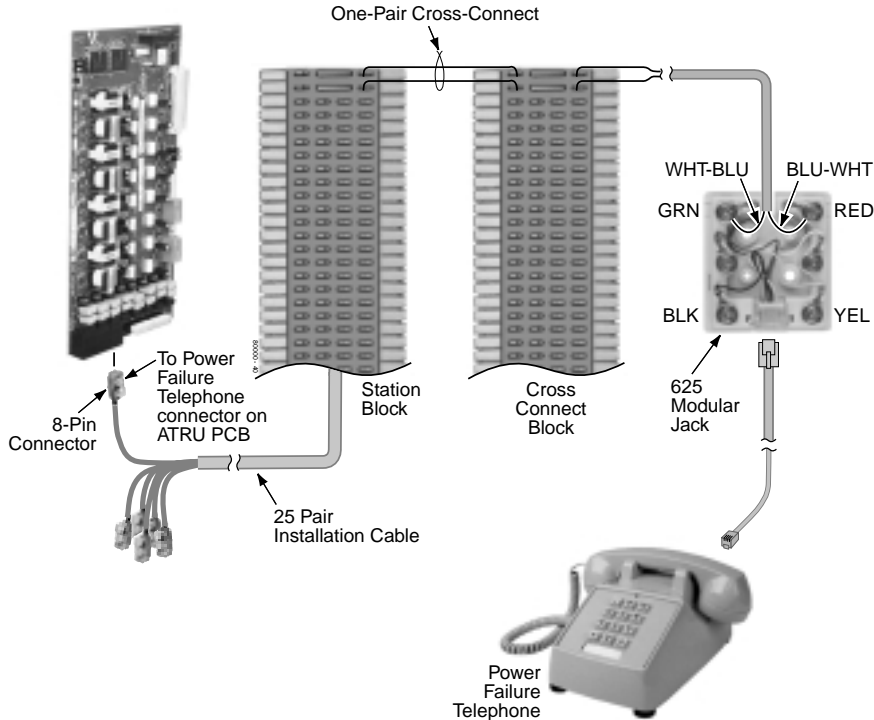

Figure 4-5 CONNECTING A POWER FAILURE TELEPHONE
### Power Failure Cut-Through (Figure 4-5)
1. Connect a Power Failure Telephone per Figure 4-5.
*You should hear dial tone on the trunk you connected in Figure 4-5.*